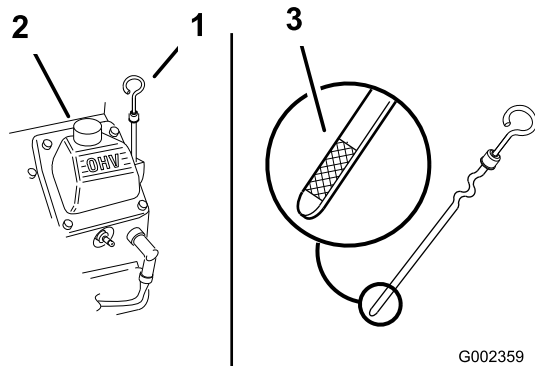

Figure 24
3. Clean around the oil dipstick (Figure 24) so that dirt cannot fall into the filler hole and damage the engine.
4. Unscrew the oil dipstick and wipe the end clean (Figure 24).
5. Slide the oil dipstick fully into the filler tube, but do not thread onto tube (Figure 24).
6. Slowly pour approximately 80% of the specified oil into the filler tube (Figure 24).